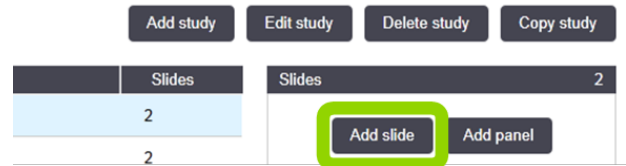

Figure 20: Add slide button
4. Highlight your study and click **Add slide** (see Figure 20).